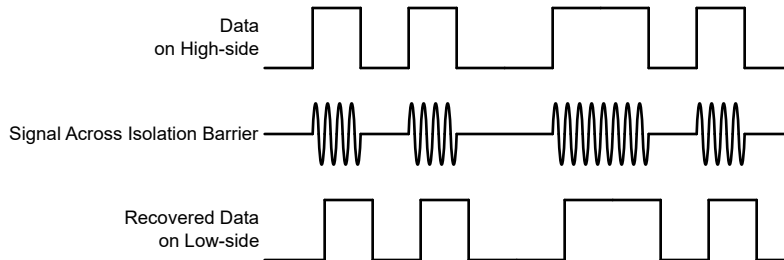

Figure 6-4. OOK-Based Modulation Scheme
The AMC22C12-Q1 uses an on-off keying (OOK) modulation scheme, as shown in Figure 6-4, to transmit the comparator output states across the SiO₂-based isolation barrier. The transmit driver (TX) shown in the *Functional Block Diagram* transmits an internally-generated, high-frequency carrier across the isolation barrier to represent a digital *one* and does not send a signal to represent a digital *zero*.